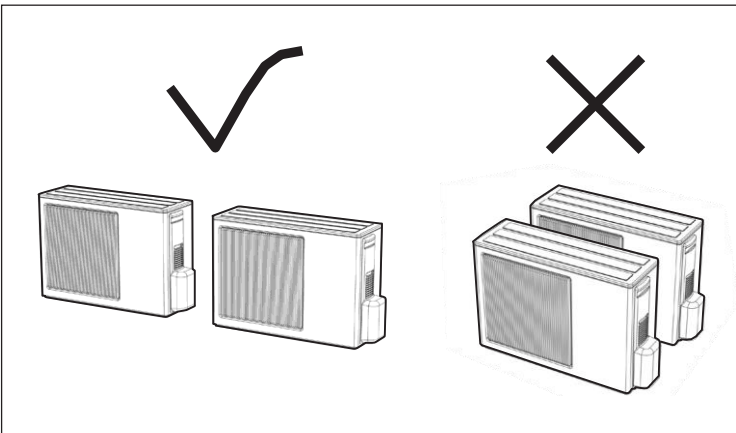

Figure 2. Avoid multiple unit installation with units facing each other
- Multiple unit installation with units facing each other, see Figure 2 on page 17.